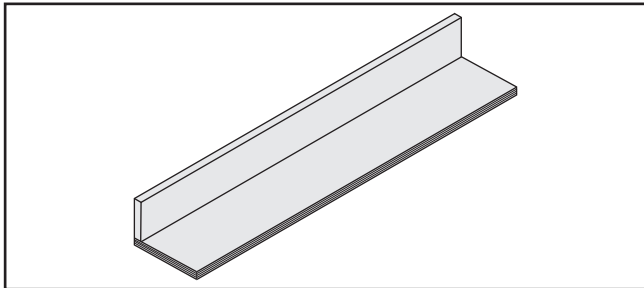

Figure 106. Auxiliary fence complete.
- Fasten the 6" and 3" wide boards with eight #6 x 1/4" wood screws through the holes you drilled in **Step 2**; the fence should look like the one shown in **Figure 106**.